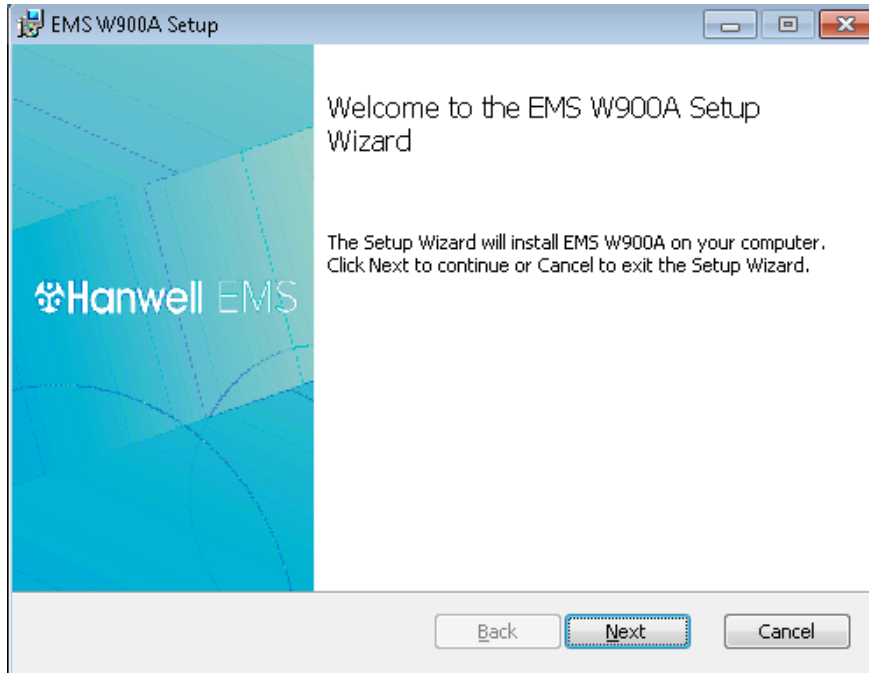

Figure 48
1. In the displayed **EMS W900A Setup - Welcome to the EMS W900A Setup Wizard** window, click on **Next**. See Figure 48 below: